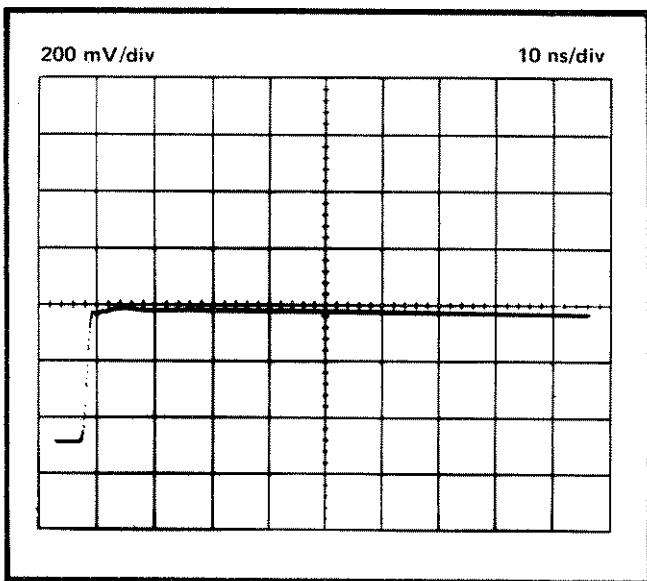

Fig. 2-2. PULSE OUTPUT leading edge (50 Ω termination).
12. Adjust the Type 3T2 Trigger Sensitivity control for a stable triggered display of the Type S-54 output pulse leading edge (about 0.5 V amplitude). Use the Time Position control to position the leading edge to the left side of the display. Use the Type 3S2 DC Offset control to position the top of the pulse at the graticule centerline. See Fig. 2-2.